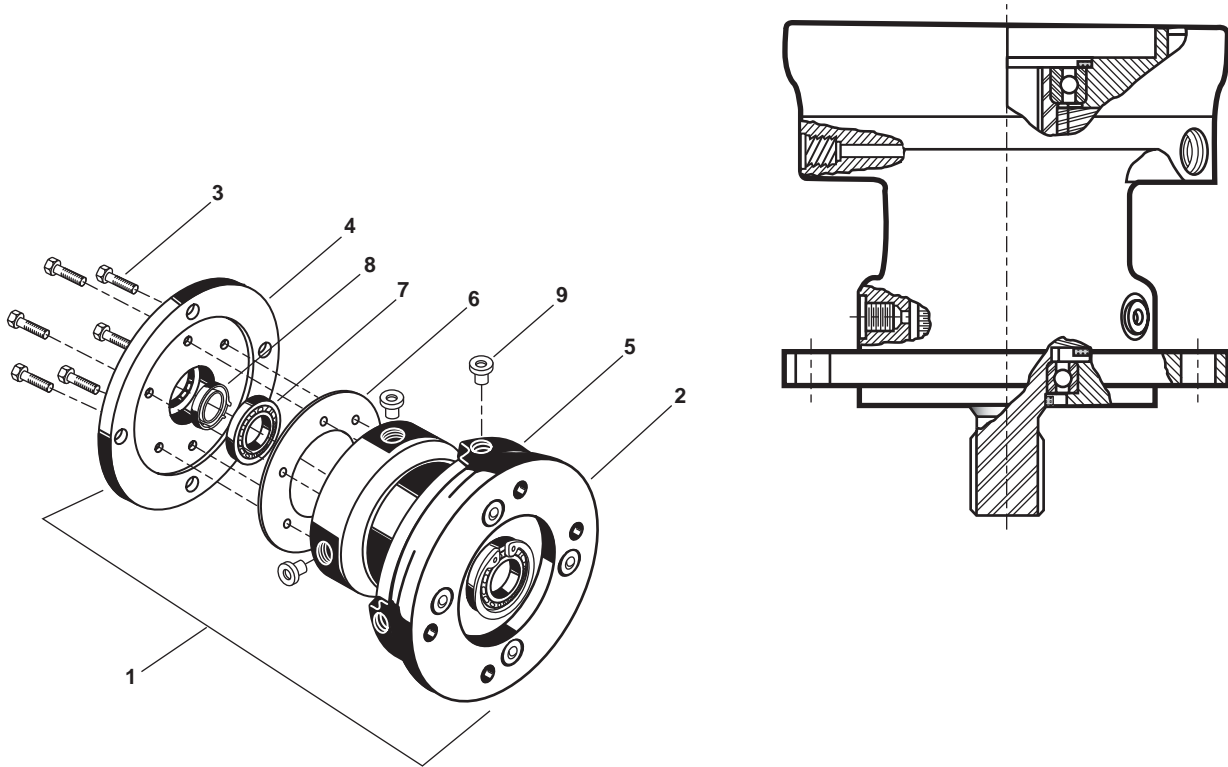

Figure 1. Fail Safe Brake
1. Place the fail safe brake (figure 1, item 1) on a flat surface with the cover (figure 1, item 2) down.
2. Remove the six bolts (figure 1, item 3) from the base (figure 1, item 4).
3. Remove the base (figure 1, item 4) from the case (figure 1, item 5).
5. Remove the gasket (figure 1, item 6) from the case (figure 1, item 5). Discard the gasket.
6. Remove the bearing (figure 1, item 7) and the oil seal (figure 1, item 8) from the base (figure 1, item 4). Discard the oil seal.
7. Remove hex plug A (figure 1, item 9) from the case (figure 1, item 5).
1. Install a new oil seal (figure 1, item 8) in the base (figure 1, item 4).
2. Install the bearing (figure 1, item 7) in the base (figure 1, item 4).
3. Install a new gasket (figure 1, item 6) on the case (figure 1, item 5).
4. Install the base (figure 1, item 4) on the case (figure 1, item 5).
5. Install the six bolts (figure 1, item 3) in the base (figure 1, item 4).
6. Torque the six bolts (figure 1, item 3) to 32 lb-ft (43 Nm).
7. Fill the fail safe brake (figure 1, item 1) through hex plug A (figure 1, item 9) with hydraulic fluid until it is $\frac{1}{2}$ to $\frac{3}{4}$ full.
8. Install hex plug A (figure 1, item 9) in the case (figure 1, item 5).